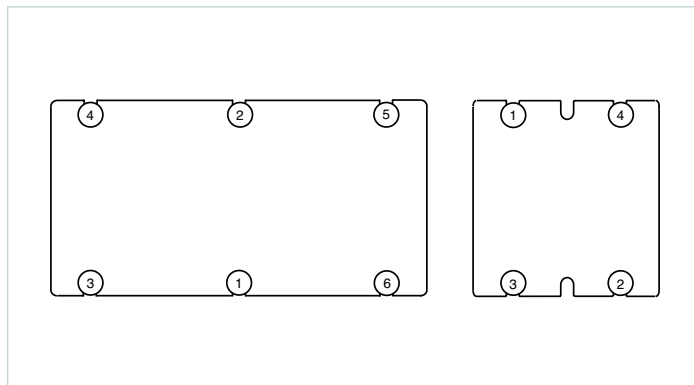

Figure 20.5 — Heat sink torquing sequence VI-200 / VI-J00
- Torque screws to 6in-lbs [0.7N·m] per Figure 20.5.